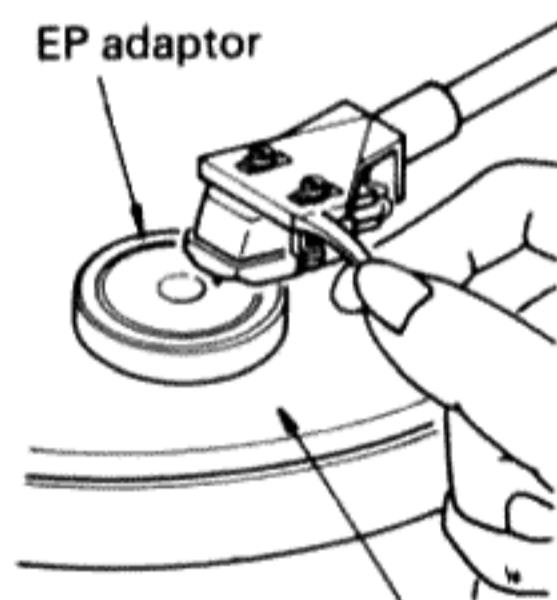

Fig. 4 Platter mat
2. Release the arm from clamping and slightly lift it up until it stops, then confirm that the stylus tip is about 7 – 9 mm above the platter mat. (See Fig. 4)